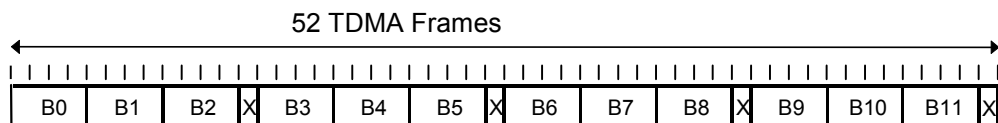

Fig. 56 52-multiframe for PDCH
The CMU provides a GPRS or EGPRS signal with a 52-multiframe structure as shown in Fig. 56 below. Each 52-multiframe contains 12 blocks of 4 consecutive frames (B0 to B12), 2 idle frames (X) and 2 frames used for the Packet Timing Advance Control Channel (X). All blocks in the signal are coded and modulated with the same coding and puncturing scheme. For EGPRS channels, all data blocks are punctured with scheme P1.